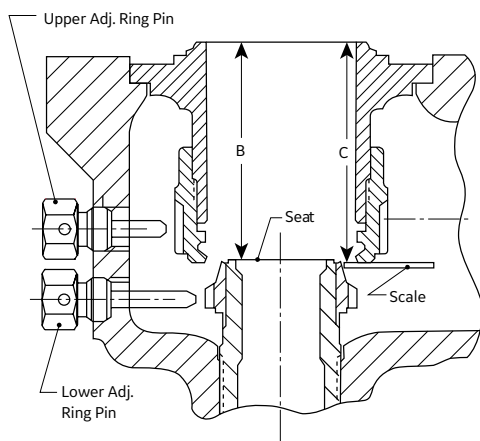
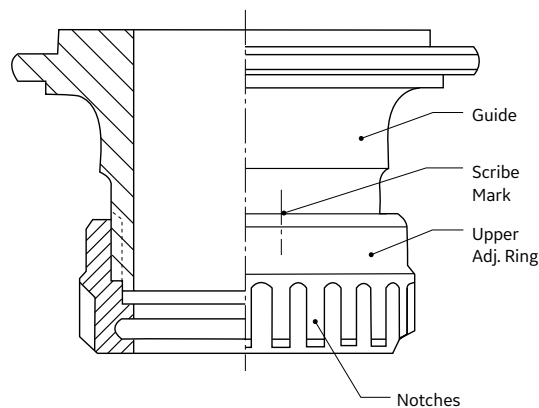

Figure 29: Guide - Bushing Seat Assembly
Figure 30: Upper Adj. Ring - Guide Assembly
- Install the adjusting ring and guide assembly into the valve base such that the scribe marks will be visible from the valve outlet or an inspection port. Place a scale or other suitable thin flat metal object on the lower face of the upper adjusting ring and measure the overall length of the upper ring and guide assembly. Adjust the upper ring to the Dimension C (See Figure 29) recorded in Step 12 of Section XII.B., "Disassembly". Observe the marks made on the ring and guide and adjust the ring to align the marks (see Figure 30.)